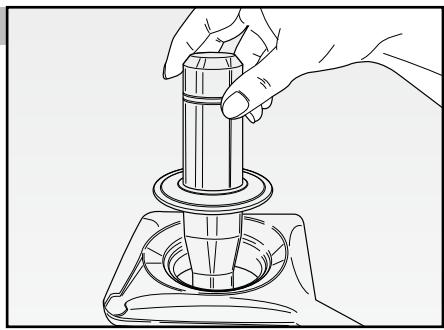

Fig. 5
- set the speed and the operating time using the apposite increase or decrease buttons (M). The selected parameters will be shown on the digital display (M).
- Press the ON-OFF button (L) that will become green and the appliance will run automatically. The digital display (M) will show the elapsed time.
- By selecting this function, it is possible to use also the pulse operation. Press and release the apposite “PULSE” button (P) to stop operation. For best results, keep pressed for a very short period (2/3 seconds).
- Press the ON-OFF button (L) to stop operation.
- During use, it is possible to add foods into the goblet, by lifting out the filler cap (A) after having switched off the appliance. Press inserted food using the apposite presser (R) - Fig. 5.